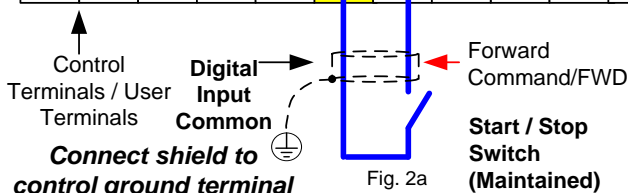

Fig. 2a
- Remove the protective covers (See E510 Manual) and make the connections as shown below in Fig. 2a.